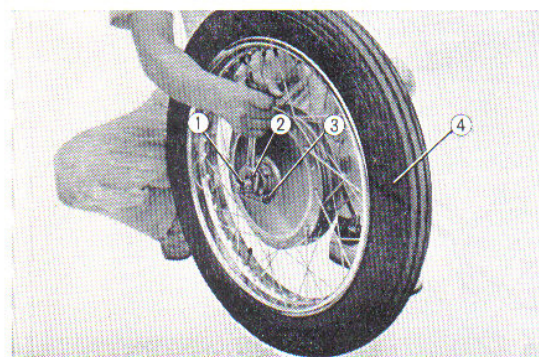

Fig. 4.75 Removing the front wheel axle
5. Remove the front wheel axle nut and pull out the axle. The speedometer gear box and brake panel can be separated from the front wheel. (Fig. 4.75)